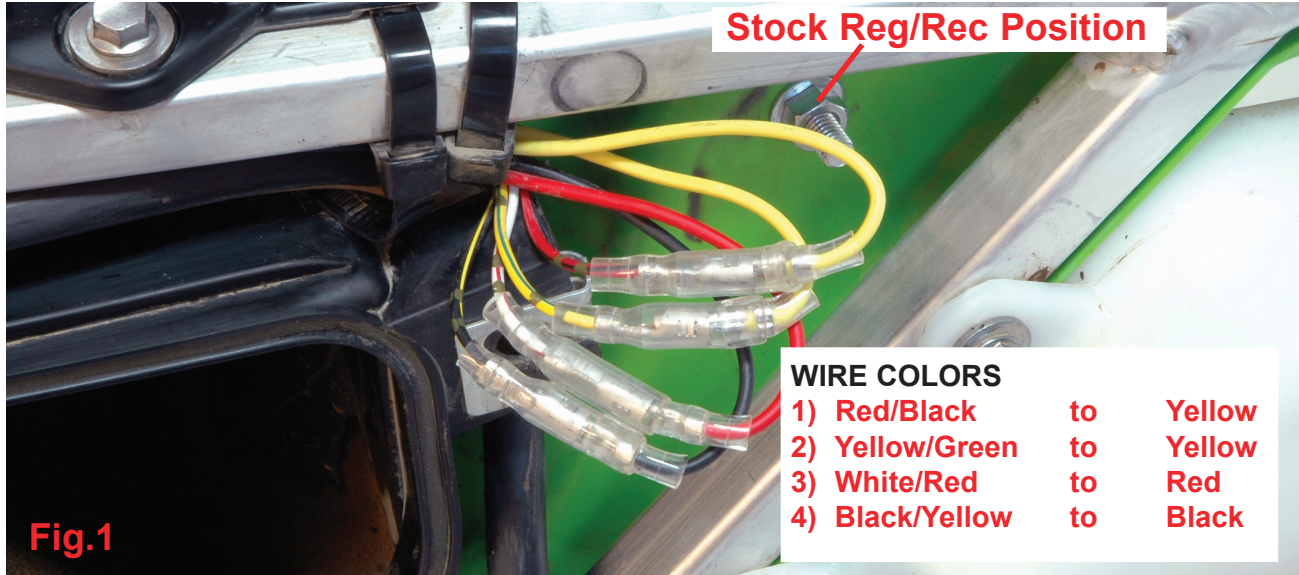

Fig.1
Step 2: Remove the stock regulator from it's mounting position (Fig. 1.)
Step 4: Cut factory connectors off wire side leaving enough lead length to wire stock items back if desired. (Fig. 1.)
Step 5: Use Trail Tech crimp kit part #HT230C to wire in new regulator/rectifier. Match wire colors as shown in (Fig. 1.)